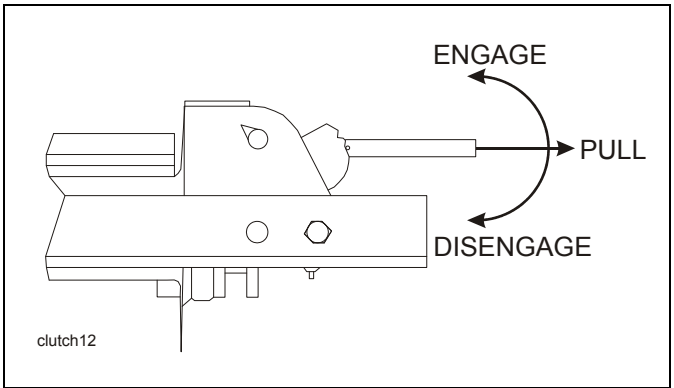

Figure 3-9: 12,000 Lb. Winch Clutch
- 1. The WINCH CLUTCH HANDLE (See Figures 3-9 and 3-10) is located on the right or curb-side end of the winch assembly.